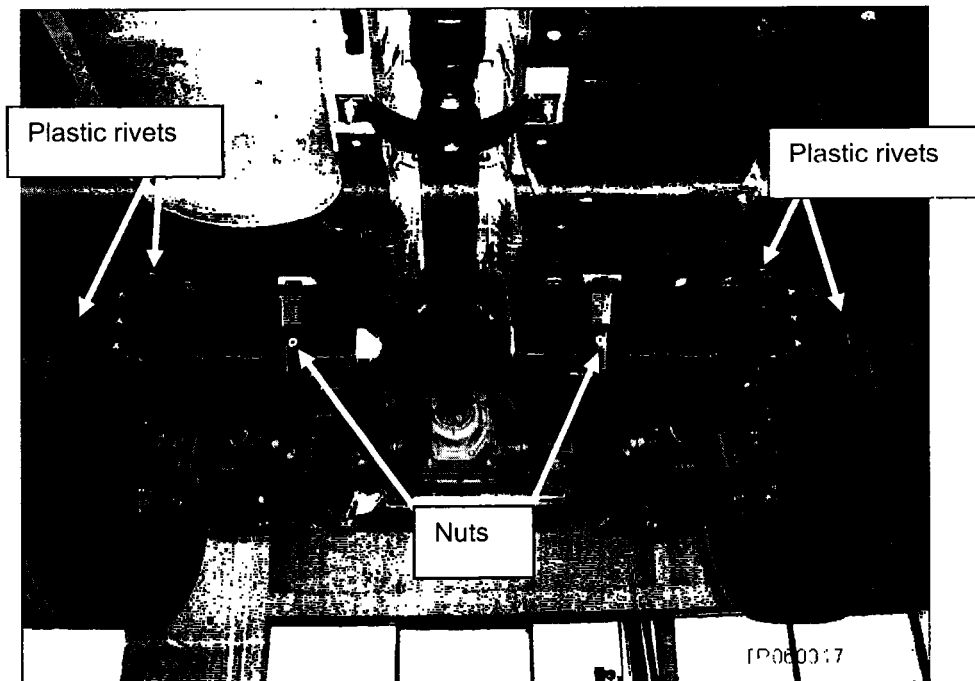

Figure 12
- c. Loosely install the nuts (see Figure 12). This will allow movement of the shields for inserting the black plastic rivets (next step).